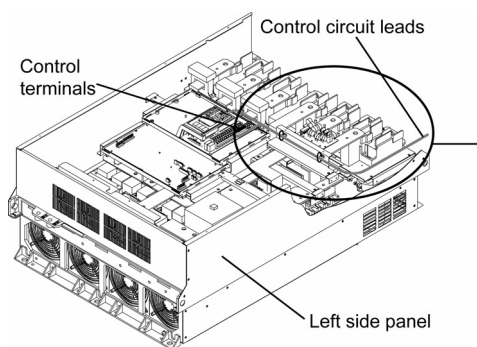

Figure 2-3-17
- (a) Pull the wiring out along the left side panel as shown in Figure 2-3-17.
- (a) Draw out along the left side panel of your inverter as in the Figure 2-3-17.